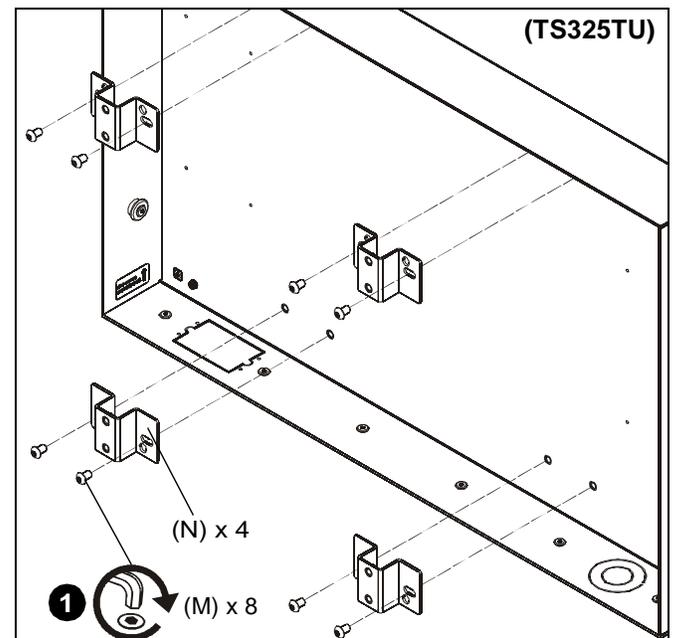
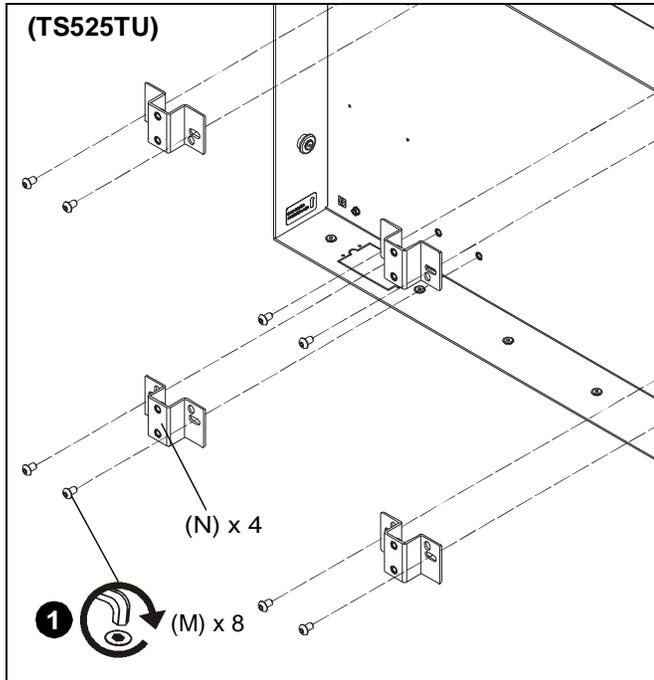

Figure 7
Figure 8
1. Use eight 5/16-18 x 1/2" button head cap screws (M) to attach four attachment brackets (N) to the TA500 (A). (See Figure 7) and (See Figure 8)